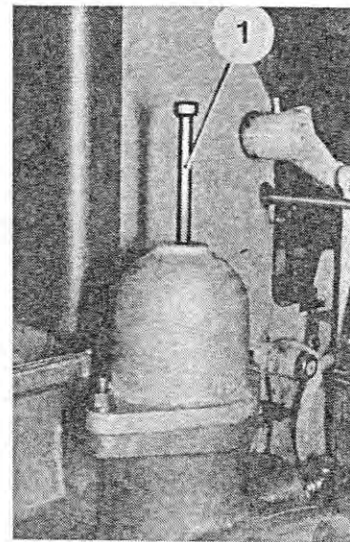
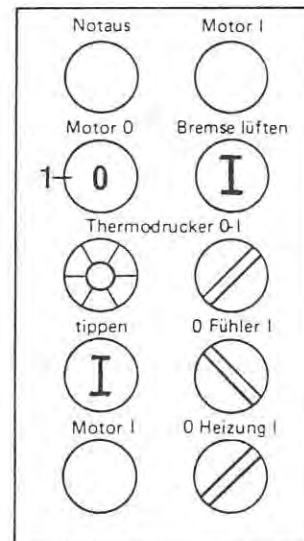
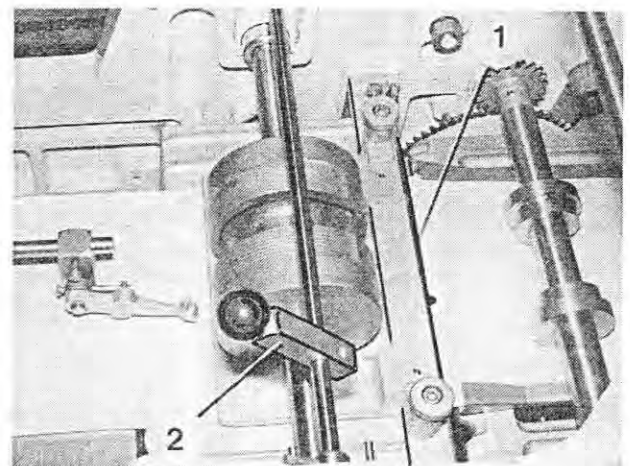

Fig. 117
Fig. 118
Fig. 119
— and operate it until the compensating piston (Figure 117/1) has fully come out. Switch off the machine by pressing the button (Figure 118/1).
15. Vent the brake and operate the machine by pressing the „Tip“ button (Figure 118) until the cutter knife (Figure 119/1) has reached its upper position.
16. Switch on the wrapper advance by reversing the lever (Figure 119/2).